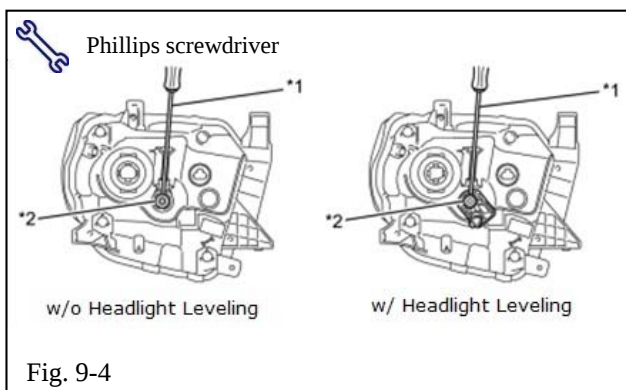

Fig. 9-4
- (2) Turn on the headlamps.
- (3) Adjust the headlight aim to within the specified range by turning aiming screw “*2” with a screwdriver (Fig 9-4).